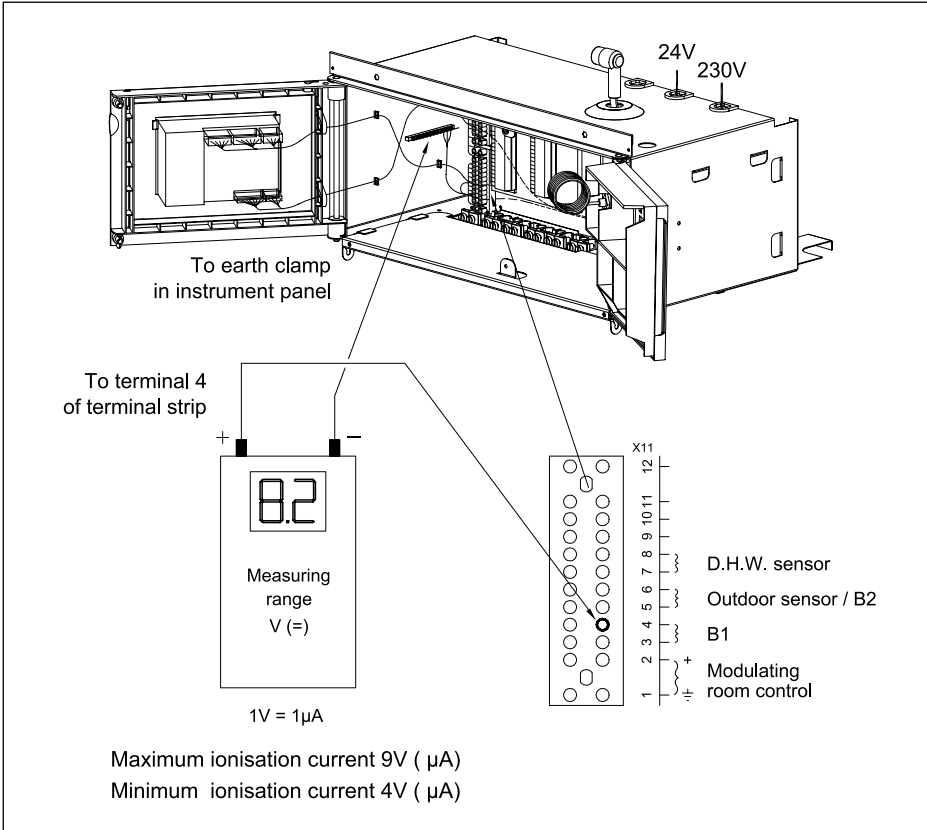

Fig. 22 Ionisation measurement
- 18.8. Check the ionisation level, measurement in Volts between terminal 4 and earth, minimum 4  $\mu\text{A}$  (1 V dc  $\equiv$  1  $\mu\text{A}$  dc, see Fig. 22).